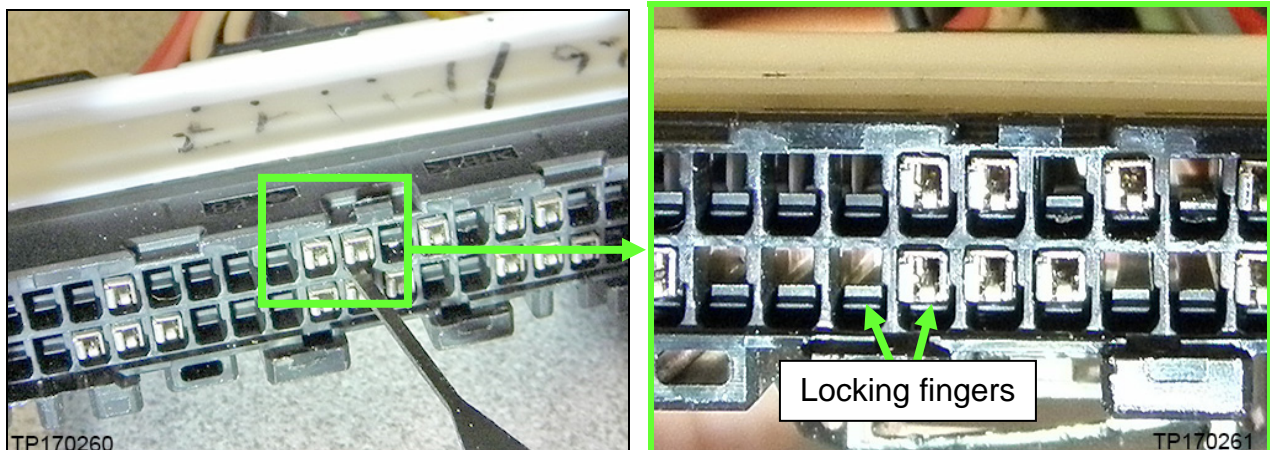

Figure 9
- Press down on locking fingers (Figure 9) to release each terminal.